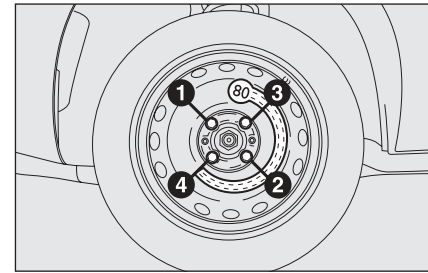

fig. 16
- Using the wrench provided, tighten the bolts in the sequence shown previously for the space-saver spare wheel **fig. 16**;